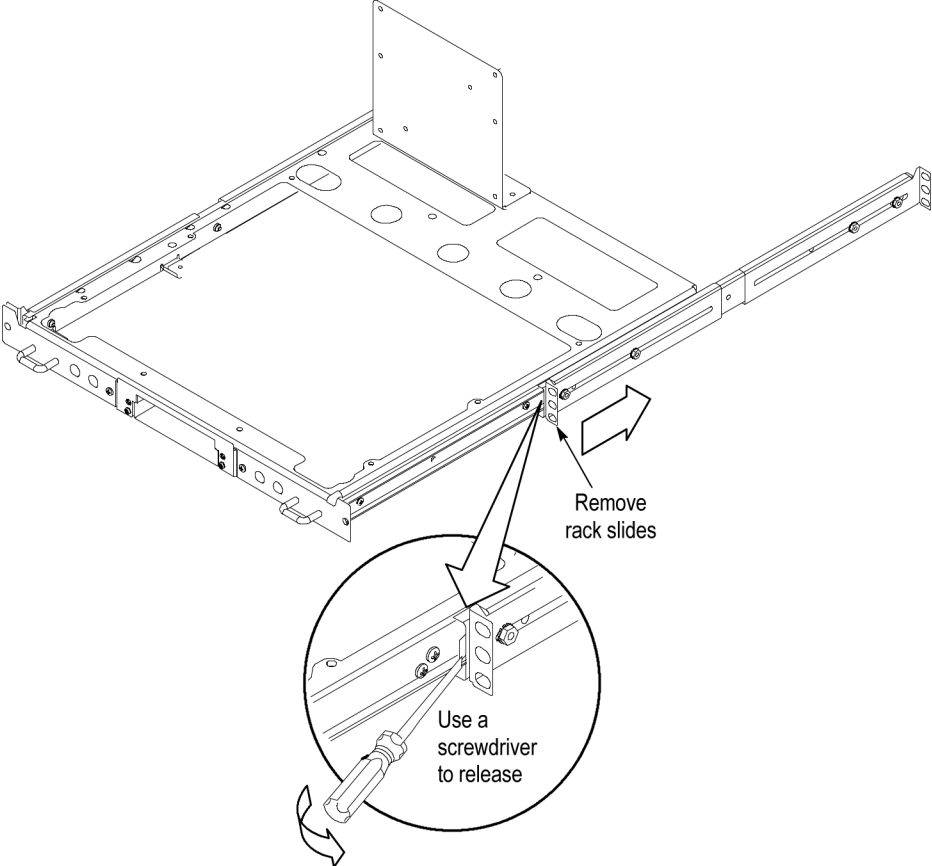

Figure 5: Removing the rack slides (configurations 1 and 2 shown)
- 1. Remove the rack slides. (See Figure 5.)